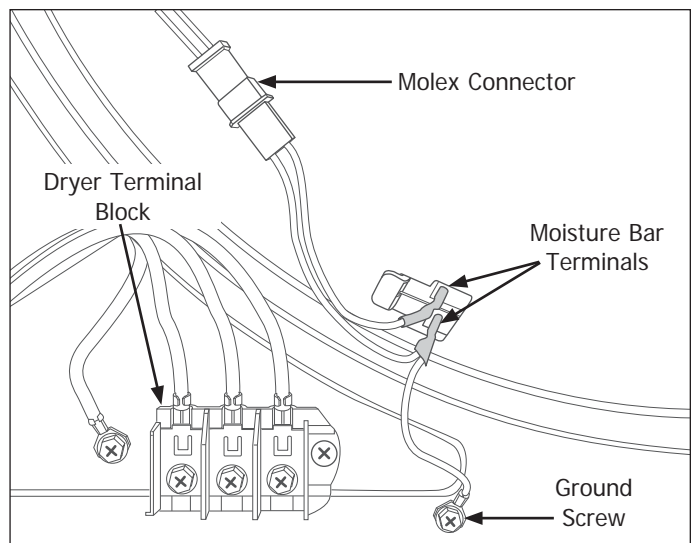

Figure 4-24. Electric Dryer Models
The rear panel is secured with 17 screws to the unit frame. The exhaust duct will need to be removed prior to removing the rear panel. The electrical connections must be disconnected from the unit behind the access cover located on the rear panel. Electric heater models require that the power cord is disconnected from the terminals as shown in Figure 4-24. Gas models require disconnecting the power cord at the Molex connector located behind the access cover. Gas models do not have a terminal block.
4. Using a #2 square bit screwdriver, extract the 17 screws (Labeled "A" in Figure 4-24) securing the rear panel to the rear of the unit. Remove the rear panel from unit.
2. Disconnect the electrical leads from the sensor bar terminals. (See Figure 4-24)
The electrical connection can be disconnected at the molex connector and with the removal of the ground wire screw as shown in Figure 4-24.